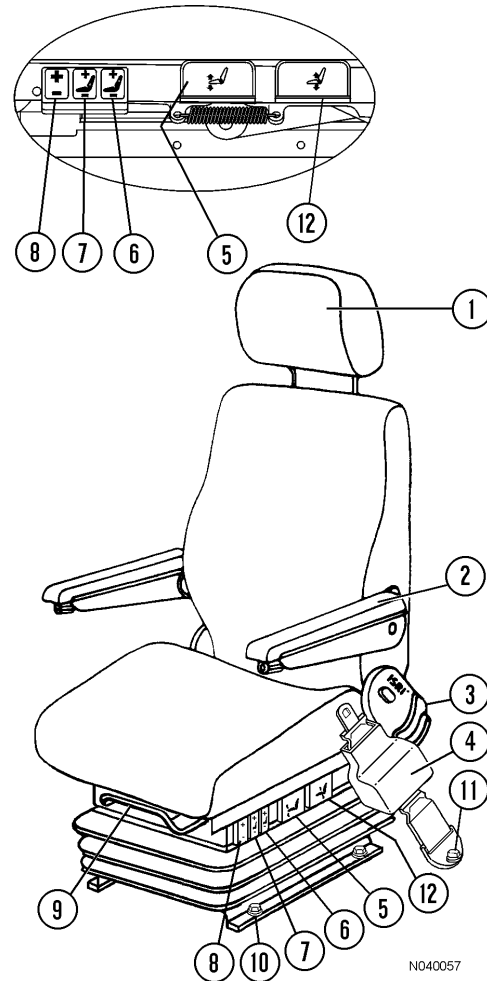

FIGURE 3-6. OPERATOR SEAT
1. **Headrest:** Move up, down, fore, or aft by moving headrest (1, Figure 3-6) to desired position.
3. **Backrest:** Lift handle (3) to release and select backrest angle; release control handle to set.
4. **Seat Belt:** Operator should always have seat belt (4) buckled in place and properly adjusted whenever vehicle is in motion.
5. **Seat Slope:** Lift lever (5) and hold to adjust the slope of seat. Release lever to lock adjustment.
6. & 7 **Air Lumbar Support:** Each rocker switch (6 or 7) controls an air pillow. Switch (7) controls the lower air pillow and switch (6) controls the upper air pillow. To inflate, press on top of rocker switch and hold for desired support, then release. To deflate, press on bottom of rocker switch and hold for desired support, then release. Adjust each pillow for desired support.
8. **Seat Suspension:** Move rocker switch (8) up to increase ride stiffness and down to decrease ride stiffness.
9. **Horizontal Adjustment:** Lift control lever (9) and hold. Bend knees to move seat to a comfortable position; release control lever to lock adjustment
10. **Seat Height:** Lift lever (12) and hold to adjust the height of the seat. Release lever to lock adjustment.
1. Remove capscrews (10, Figure 3-6) and hardware that secures the seat base to the riser. Remove capscrews (11) that secures tether to floor.